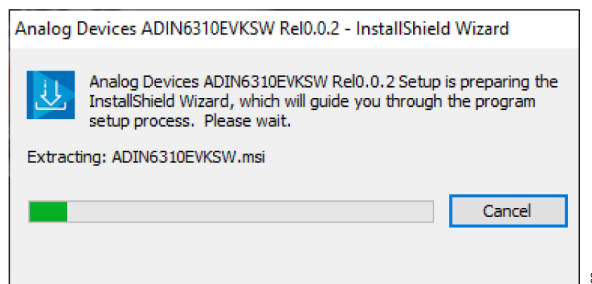

Figure 2. Installation Begins
3. The installation process starts, see Figure 2.